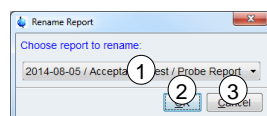
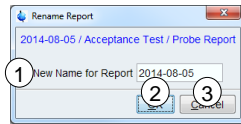

Figure 5-21: Rename Report – choose report
Figure 5-22: Rename Report – rename
- (1) Select the report to rename from the list (Figure 5-21 (1)).
- (2) Click **OK** (Figure 5-21 (2)) to continue to rename the report. The subsequent dialog shown in Figure 5-22 opens.
- (3) Click **Cancel** (Figure 5-21 (3)) to abort renaming a report.
- (1) **New name for Report**
Enter the **New Name for Report** (Figure 5-22 (1)). (see chapter 2.2, permitted characters). The old name is suggested as a default.
- (2) Click **OK** (Figure 5-22 (2)) to finish renaming the report.
- (3) Click **Cancel** (Figure 5-22 (3)) to abort renaming a report.